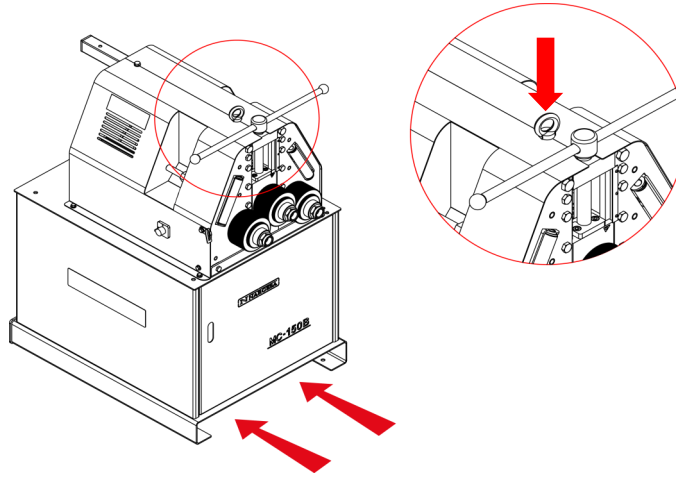

Figure 4. Transportation of the machine
- From the top of the machine, from the anchor point designed for this purpose defined in figure 4, using a crane or forklift .